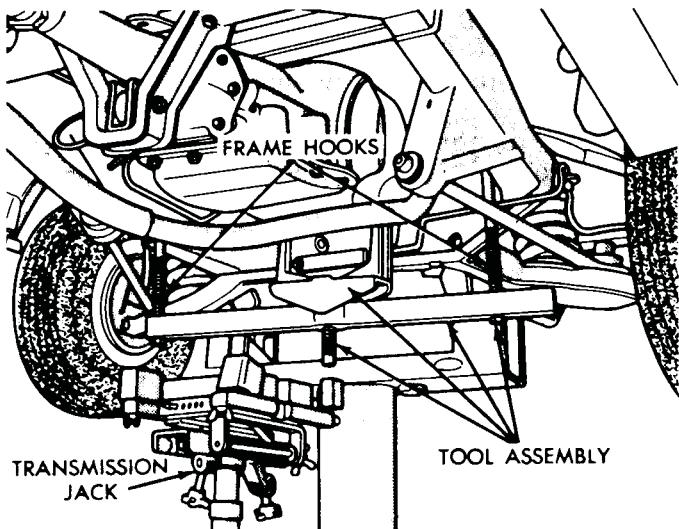

Fig. 1—Engine Support Fixture (Typical)
(15) Disconnect throttle rod from lever at the left side of transmission. Remove linkage bell-crank from transmission, if so equipped.
(16) Remove oil filler tube and speedometer cable.
(17) Install engine support fixture, Tool C-3487-A with frame hooks or a suitable substitute, that will support rear of the engine (Fig. 1).
(18) Raise transmission slightly with service jack to relieve load on the supports.
(19) Remove bolts securing transmission mount to crossmember and crossmember to frame, then remove crossmember.
(20) Remove all bell housing bolts.
(21) Carefully work transmission and torque converter assembly rearward off engine block dowels and disengage torque converter hub from end of crankshaft. **Attach a small C-clamp to edge of bell housing to hold torque converter in place during transmission removal.**
(22) Lower transmission and remove assembly from under the vehicle.